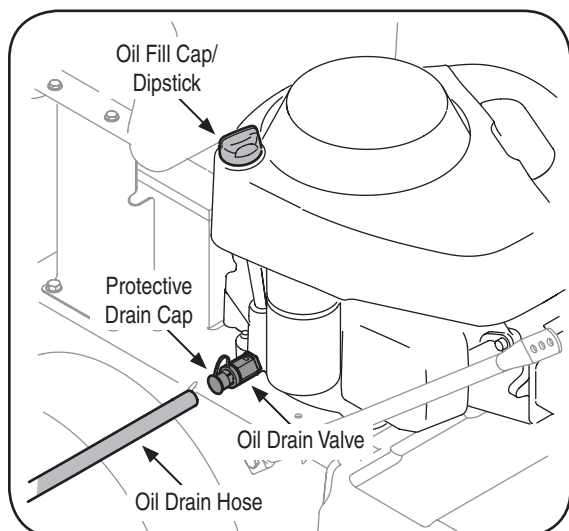

Figure 5-4: Use the drain hose to drain oil from engine.
- Pop off the protective cap on the end of the oil drain valve to expose the drain port, Figure 5-4.
- Remove the oil fill cap/dipstick from the oil fill tube, Figure 5-4.